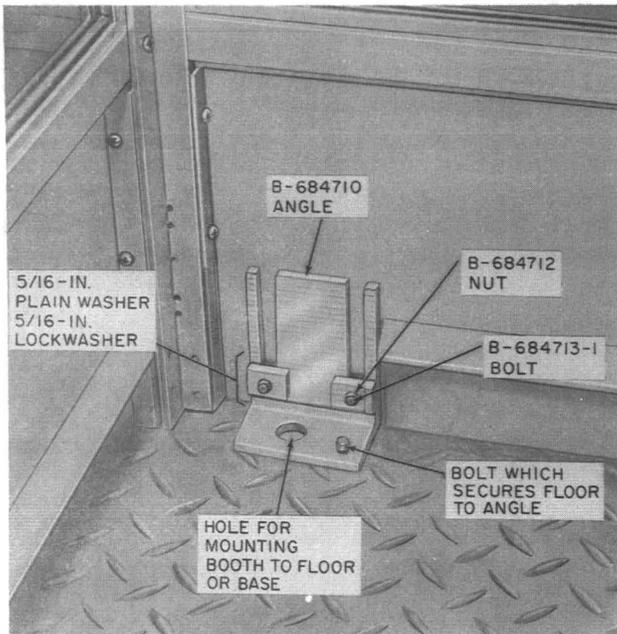

Fig. 13—Mounting and Leveling Angle
2.21 An aluminum tread floor (Fig. 13 and 14) is furnished.
2.22 Adjustable angles (Fig. 13) are provided to facilitate booth leveling up to 3 inches. They are also used for bolting the booth to its mounting surface. Leveling inserts shown in Fig. 14 have been rated manufacture discontinued (MD).
- (1) Mark the location for four mounting holes.
- (2) Drill four lead holes to accommodate 5/16 by 2-1/2 inch lag screws.
- (3) Secure booth to floor using the four 5/16 by 2-1/2 inch lag screws, four 5/16-inch lockwashers, and four 5/16-inch flat washers.
- (d) Adjust the leveling insert assemblies or angles (Fig. 13 or 14) if necessary, and ensure that the booth is level.